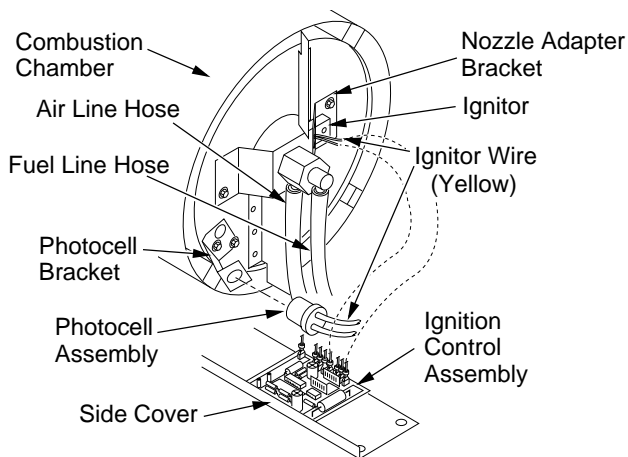

Figure 17 - Disconnecting Ignitor Wires from Ignition Control Assembly
4. Disconnect ignitor wires (yellow) from ignition control assembly (see Figure 17). Pull the ignitor wires up through the hole in the lower shell.
5. Disconnect fuel line hose and air line hose. Remove photocell from photocell bracket (see Figure 17).
11. Route the ignitor wires back down through the hole in the lower shell. Connect wires to the ignition control assembly (see Figure 17).